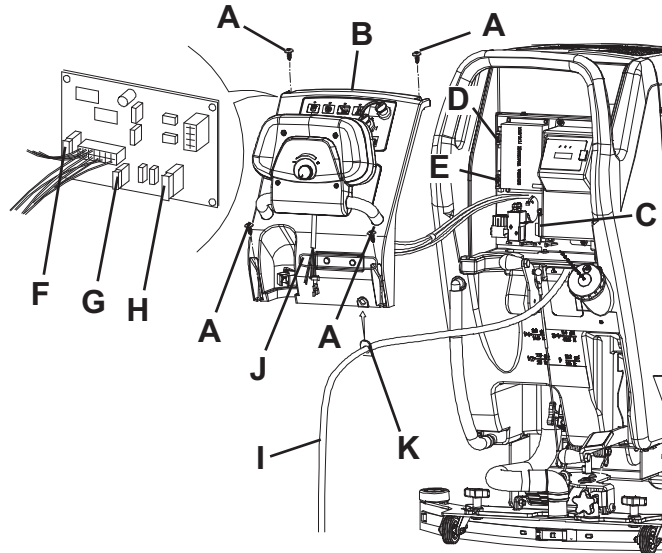

Figure 10
1. Disconnect the battery connector (12).
2. Move aside the recovery water drain hose (16).
3. Remove the battery charger cable (I, Fig. 10) from the holder (J).
4. Remove the screws (A) and carefully move aside the panel (B) by disengaging the grommet (K) from its housing on the panel (B).